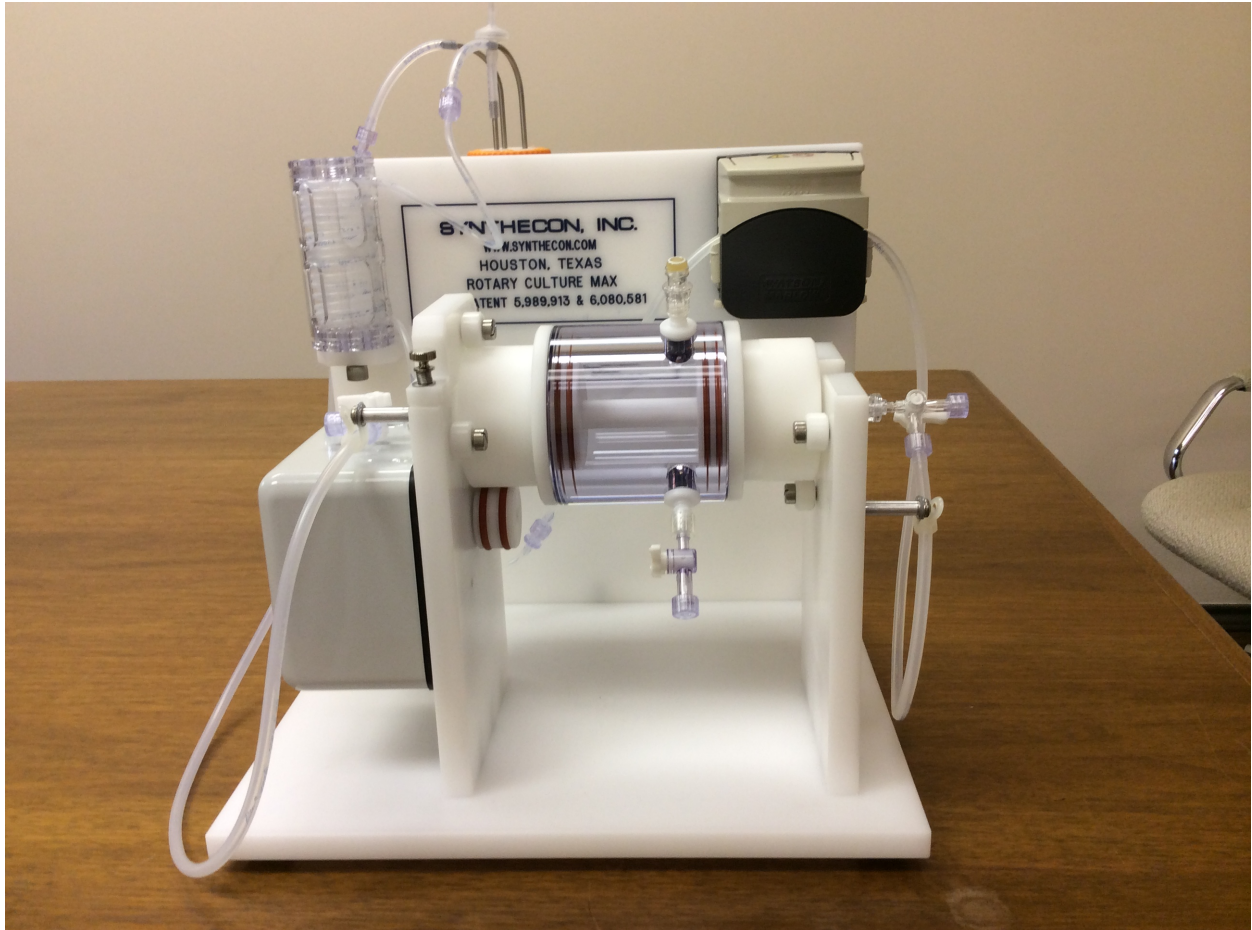

Figure 6
4. Filling the Culture vessel with media. Fill the media bottle with the desired volume of media. Remove the fill port plug on the vessel wall and place it on a alcohol swab. Fill the cell chamber of the vessel with media and cells until it reaches the fill port. Microcarriers or other scaffolding material can also be added at this time. Replace the fill port plug being careful not to contaminate the plug. Since it is difficult to maneuver the rotator base in the hood, it is more convenient to take the complete the flow loop and assemble it on the rotator base on a bench and then place the whole system in the incubator. (Figure 6 shows the completely assembled system) Note the clamp on the left upright should be tightened to assure that the vessel rotates properly.
Note in figure 6 that one syringe port has a septum and the other port has a one way valve. This is just for demonstration purposes. Either can be used on the syringe ports depending on the user's preference.